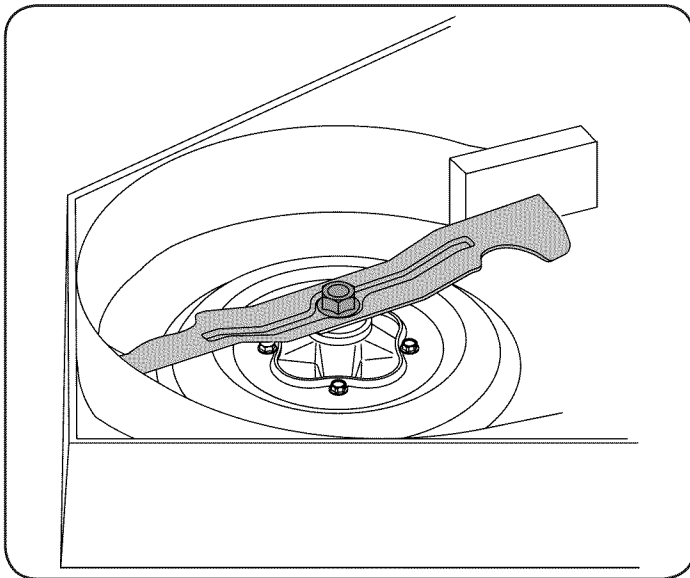

Figure 40
2. Use a 1-1/8" wrench to hold the hex nut on top of the spindle assembly when loosening the hex nut securing the blade. A block of wood may be placed between the deck housing and the cutting edge of the blade to help in breaking loose the hex nut securing the blade. See Figure 40.